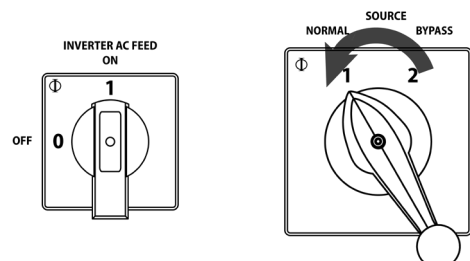

Figure 21. Switching SOURCE to NORMAL
Step 5. Within ten seconds turn SOURCE switch from position 2 (*BYPASS*) to position 1 (*NORMAL*). See Figure 21.